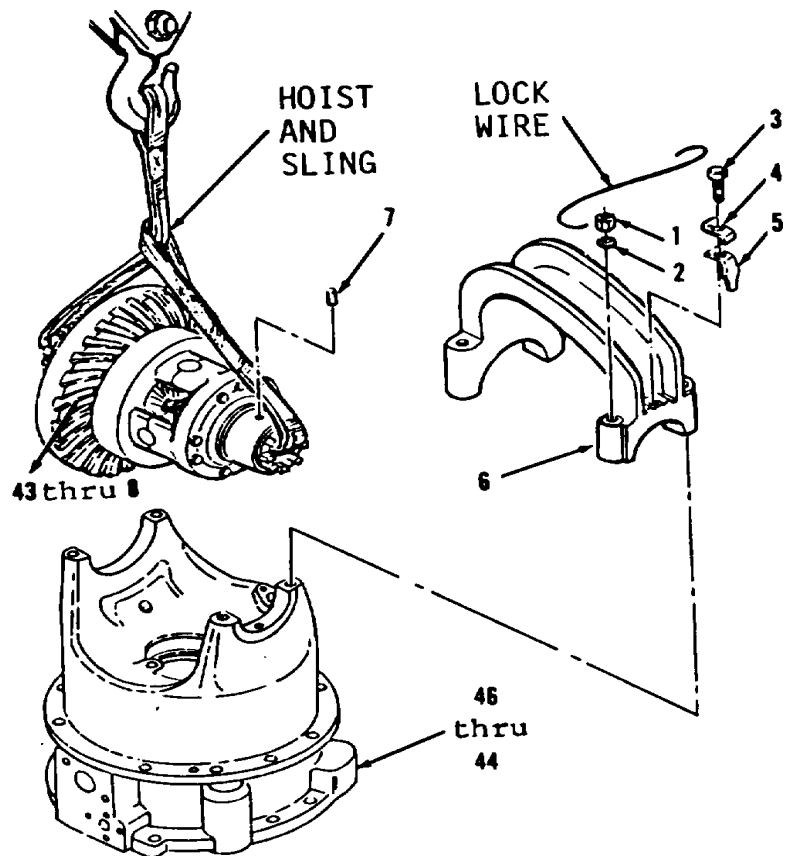

Figure 14-121.
1. Attach hoist and sling to items 43 thru 8 as an assembly (Figure 14-121).
2. Position items 43 thru 8 as an assembly in items 46 thru 44 as an assembly so that opening in cage aligns with ring (45) and seal (46) in carrier assembly (46).
4. Install dowel (7) and cap (6).
5. Install four washers (2) and nuts (1). Tighten four nuts (1) to 75 ft-lb torque. Do not install two bolts (3) and locks (4 and 5) at this point.